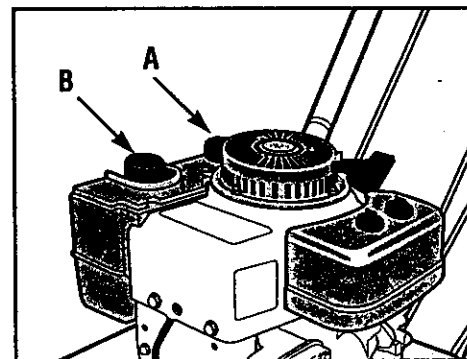

Figure 3-10
- Be sure that engine is level. Remove dipstick (A, Figure 3-10).
- Stop engine and allow it to cool for three minutes before removing fuel fill cap (B, Figure 3-10). Do not check fuel level or add fuel while indoors.